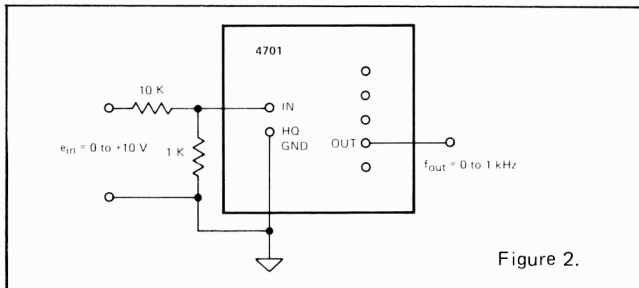

Figure 2.
2. An alternate scheme which might be considered would be to use a 10k Ω /1k Ω attenuator in place of the 200k Ω input resistor at the input (see Figure 2). This will give the 1 kHz full scale output frequency but will also degrade the transfer characteristics. A poorer full scale temperature drift can be expected, the exact degradation depending on the TC's of the two resistors. The zero drift will also probably degrade to 40 ppm/ $^{\circ}$ C due to the input attenuation. In addition, this resistor-divider will degrade linearity to typically